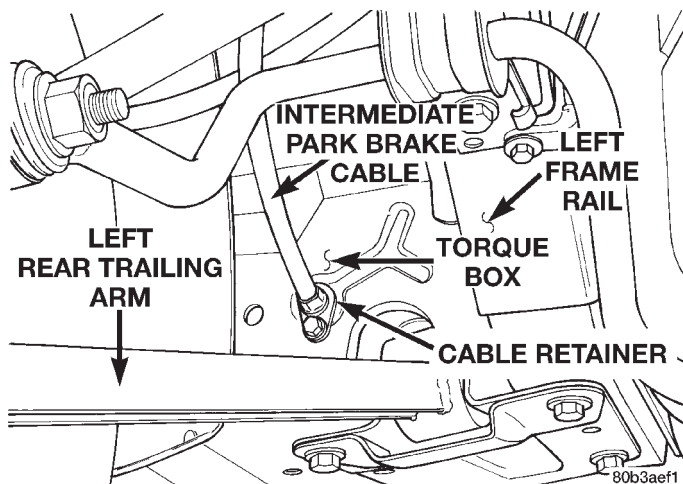

Fig. 70 Cable At Torque Box
(1) Raise the vehicle using a frame contact type hoist or correctly supported on jackstands. See Hoisting in the Lubrication and Maintenance group of this service manual for the required lifting procedure for this vehicle.
(2) Loosen the park brake cable tensioner adjuster nut until tension is removed from cables.
(3) Disconnect the cable connector between the front and intermediate cable.
(4) Remove the bolt attaching the intermediate cable retainer to the body torque box (Fig. 70).
(5) Remove the intermediate cable from the body torque box (Fig. 70).
(6) Remove the connector from the intermediate cable at the right rear park brake cable.
(7) Remove the intermediate cable from the tensioner bracket using the box end of a 1/2 inch wrench.
(8) Release the latch on the routing clip for the intermediate cable, mounted above the left rear cable retainer clip, on rear suspension crossmember.
(9) Remove the intermediate park brake cable.
(2) Install the intermediate cable to the tensioner bracket by snapping it into place.
(3) Reinstall retainer clip on top of left side of crossmember, around intermediate cable and into place.
(4) Connect the intermediate cable to the right rear cable connector.
(5) Install the intermediate cable through the hole in the body torque box (Fig. 70). Install the bolt attaching the intermediate cable retainer to the body torque box.
(6) Connect the intermediate cable to the front cable connector.
(7) Adjust parking brake. See Adjustments in this group of the service manual for the proper parking brake adjustment procedure.
(8) Lower the vehicle.